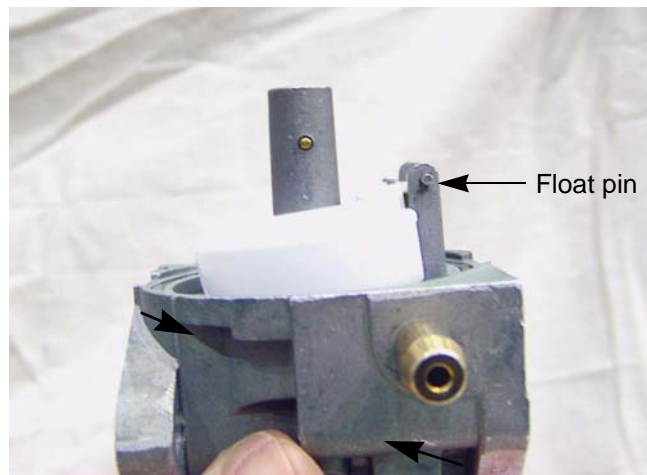

Figure 4.7
4. Remove the afterfire solenoid seat using a 14mm wrench. See Figure 4.7.